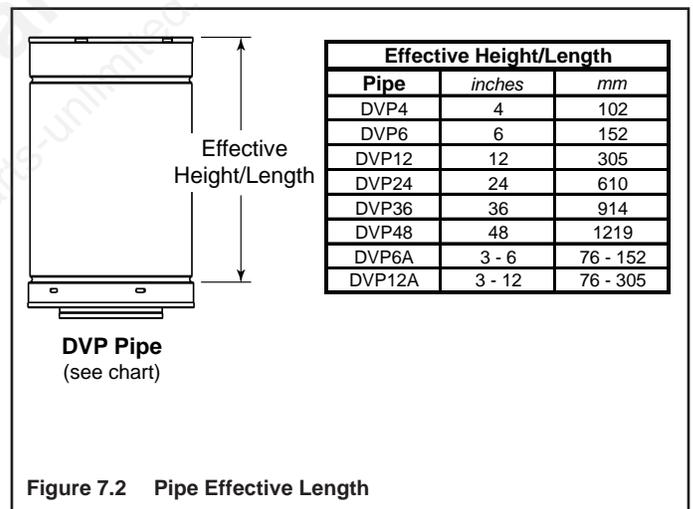

Figure 7.2 Pipe Effective Length
- Pipe measurements are shown using the effective length of pipe (see Figure 7.2).